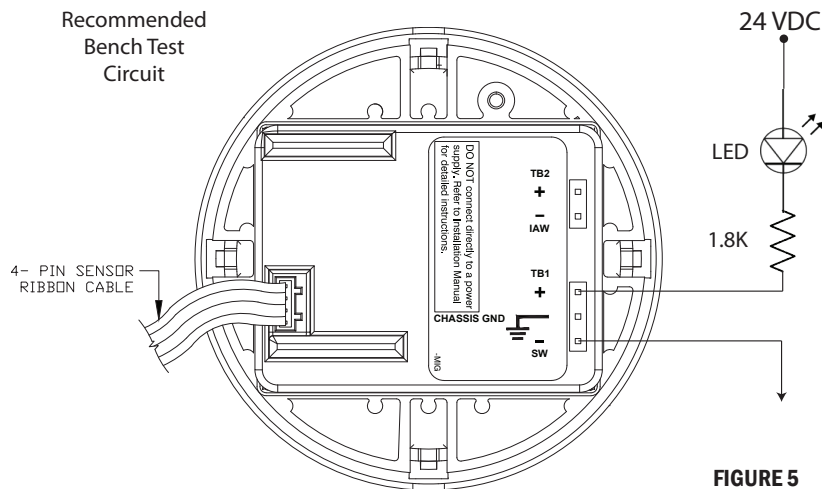

FIGURE 5
**NOTE:** For bench testing model 1XSWLL, a circuit is required as shown in Figure 5. These components are not included and must be provided by the tester. **Do not connect model 1XSWLL directly to a power supply without a suitable load in series with the switch.** Model 1XSWLL has a maximum switch rating of 7.8-50 VDC, 0.1 A @ 25°C. Do not exceed this rating or permanent damage may result.